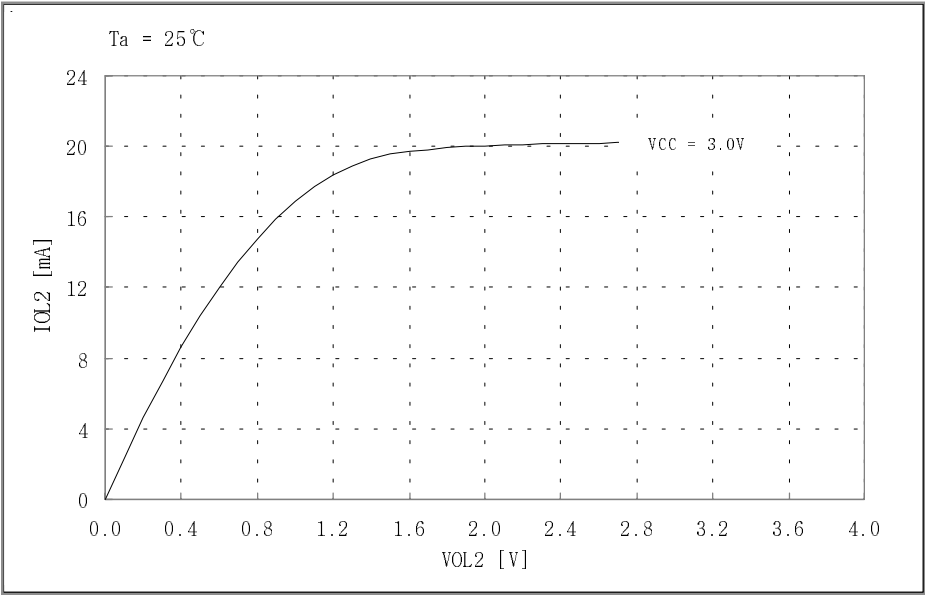
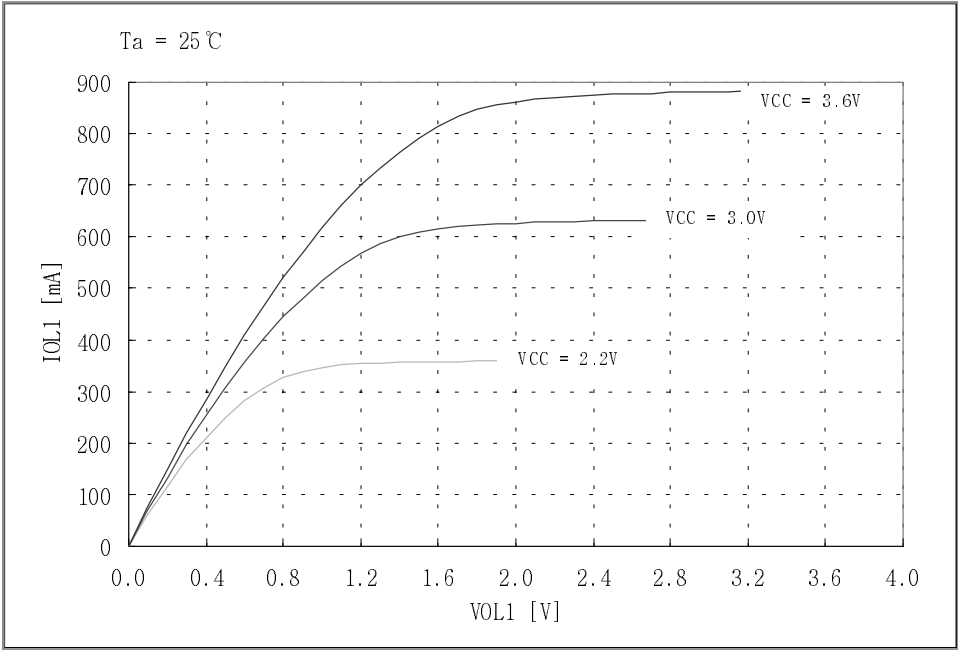

Fig 7-1. I_{OL2} vs. V_{OL2} Graph. (D, R Port)
Fig 7-2. I_{OL1} vs. V_{OL1} Graph. (REMOUT port)
*1 Refer to < Fig.7-1 I_{OL2} vs. V_{OL2} Graph >*2 Refer to < Fig.7-2 I_{OL1} vs. V_{OL1} Graph >*3 I_{DD1}, I_{DD2}, is measured at RESET mode.